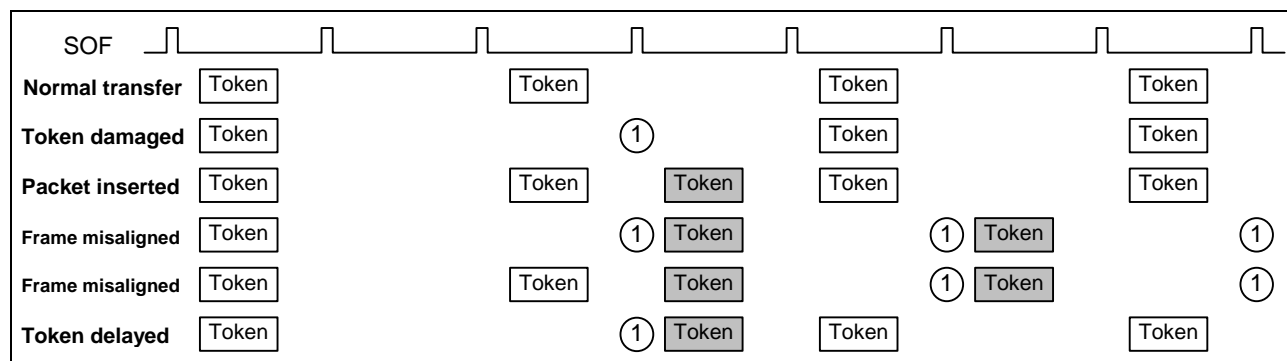

Figure 3.28 Example of interval error being generated when "IITV=1"
Figure 3.28 shows an example of the controller generating an interval error. There are five types of interval errors, as noted below. The interval error is generated at the timing indicated by ① in the illustration, and the buffer flush function is activated.